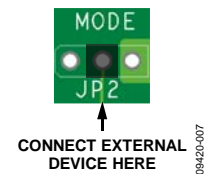

Figure 7. MODE Pin Direct Connection
- Control the voltage applied to the MODE pin directly by connecting an external device to the center pin of JP2 (see Figure 7). Apply a voltage between GND and VIN.